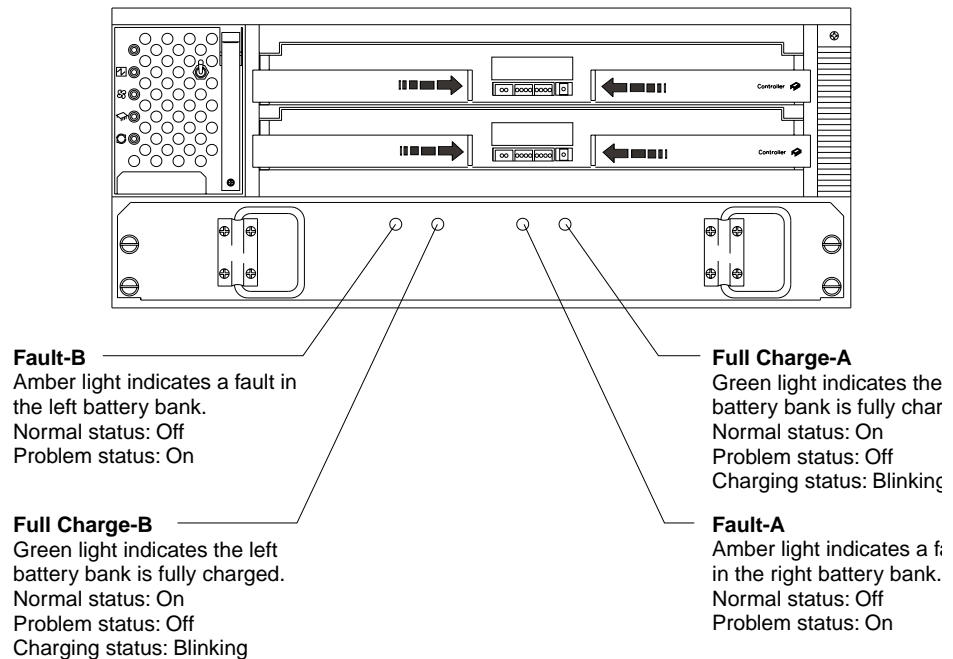

Figure 37. Battery CRU indicator lights
10. Check the battery indicator lights, as shown in Figure 37.